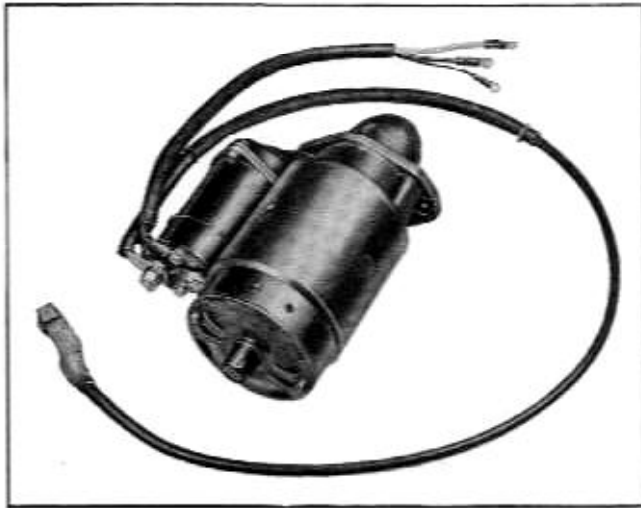

Fig. 12-36 Proper Assembly of Wires and Cable to Solenoid
1. Connect battery cable and solenoid wires to solenoid as shown in Fig. 12-36. **NOTE:** Connect yellow wire to battery cable terminal of solenoid, black wire to terminal marked "R" and purple wire to terminal marked "S".